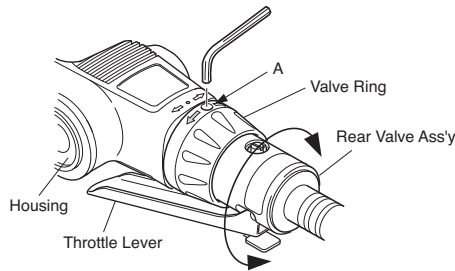

Fig. 7
Loosen the Hex. Socket Set Screw by the Hex. Socket Screw Key 1.5 as shown in Fig. 7 and turn the adjusting screw with a Pan Head screwdriver so that the Abrasive Belt may run almost in the center of the Idle Pulley, then turn the Hex. Socket Set Screw by the Hex. Socket Screw Key to lock the adjusting screw.
**4-5. Relocation of Throttle Lever (Fig. 7)**
- 2) Loosen the Hex. Socket Set Screw found at "A" on Fig. 7 with Hex. Socket Screw Key 1.5 included in the package.